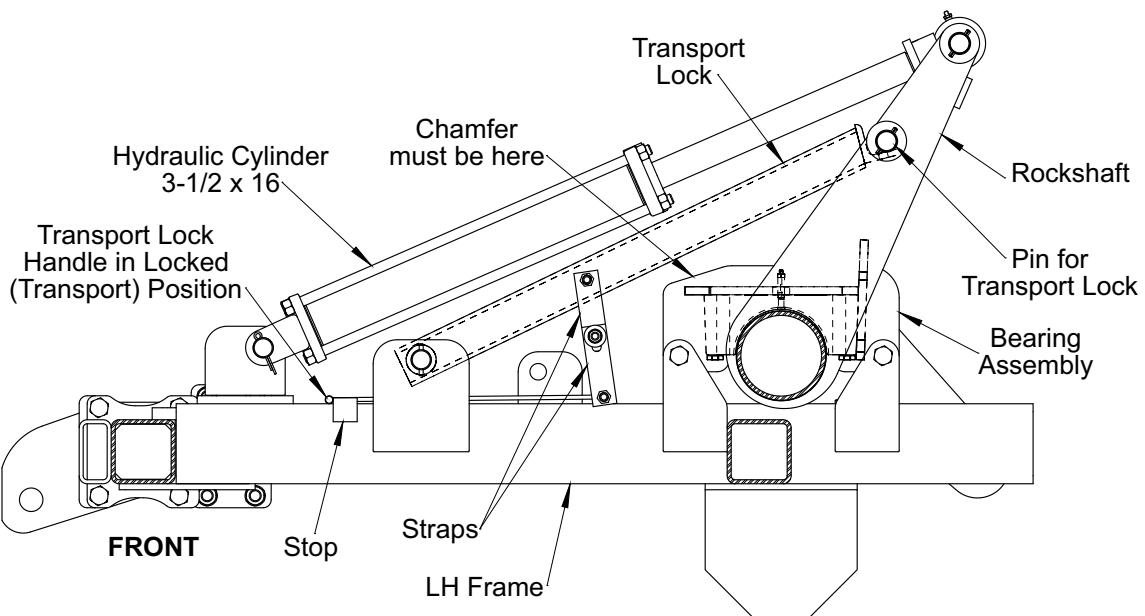

Figure 3-6: Transport Lock - Transport Position
4. Fully extend the Transport Axle Hydraulic Cylinder and engage the Transport Lock. **See Figure 3-6.**
5. To relieve pressure put circuit in float and machine should remain raised. Be sure to use the Transport Lock. **See Figure 3-6.**
1. Extend the Lift Cylinder to full length and lift the Transport Lock Hand while pulling it forward so the Handle rests in front of the Frame Stops. **See Figure 3-6.**
10. Install transport lock on lift system. Do not depend solely on implement hydraulics for transport. **See Figure 3-6.**